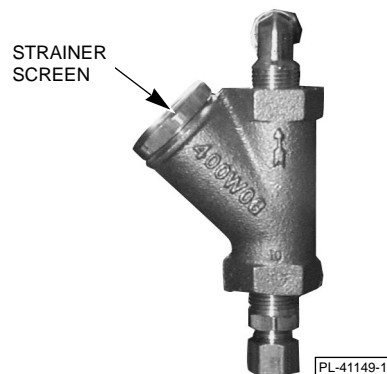

Fig. 3
- b. Using a wrench, unscrew the part of the strainer where the strainer screen is located (Fig. 3).